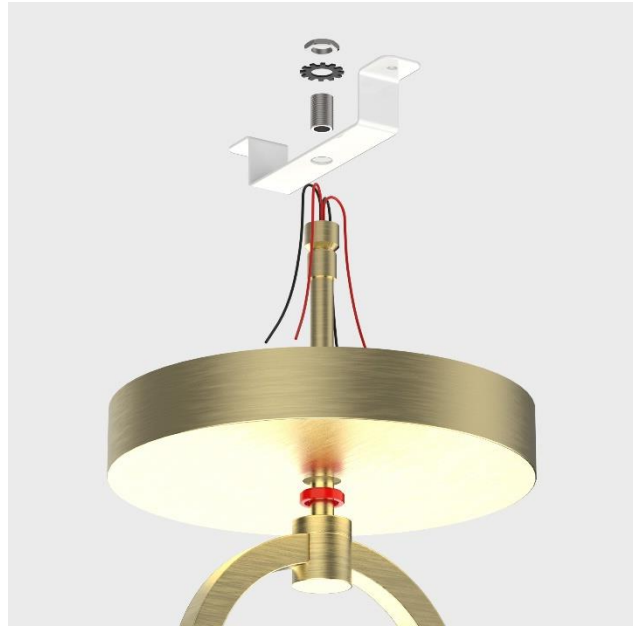

Figure 3
- Critical: Unthread and slide swivel ring (shown red) down stem (Figure 3).